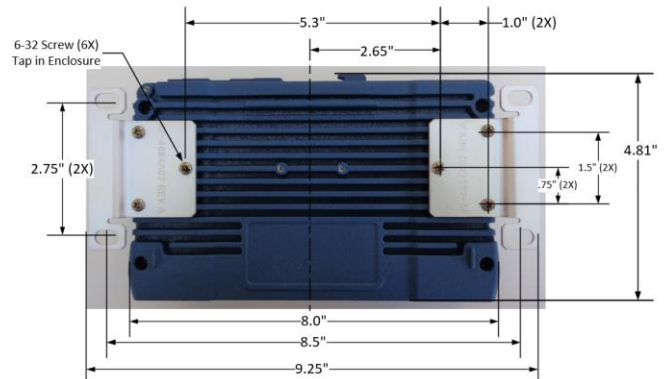

Figure 2: MDS Orbit X-MR Mounting Bracket Dimensions
1. **Mount the unit.** Attach the supplied brackets to the bottom of the case (if not already attached), using the screws provided. Mounting bracket dimensions are shown in Figure 2. If DIN Rail mounting brackets are to be used, consult the *Technical Manual* for details.